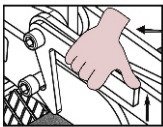
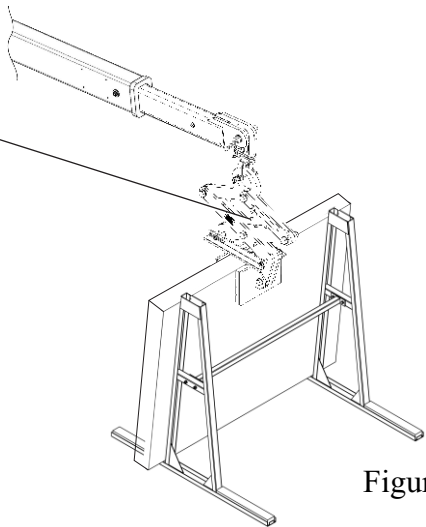

Figure 2.4
Figure 2.5
- Pull up the locking latch to disengage the clamping plates for lifting slabs up (Figure 2.4). Lift the scissor clamp by confirming the stone slab is gripped firmly (Figure 2.5).